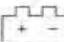

Fig. 1
- 3) If measure " DCV ", select the " Function rotary switch " ( 3-6, Fig. 1 ) to the " V  $\equiv$  " position
- 4) If measure " ACV ", select the " Function rotary switch " ( 3-6, Fig. 1 ) to the " V  $\sim$  " position, the display ( 3-2, Fig. 1 ) will show the " AC  $\sim$  " indicator.
- 3) Select the " Function rotary switch " ( 3-6, Fig. 1 ) to the "  $\Omega$   $\cdot$  ) " position, the display ( 3-2, Fig. 1 ) will show the "  $\Omega$  " indicator.
- 3) Select the " Function rotary switch " ( 3-6, Fig. 1 ) to the "  $\Omega$   $\cdot$  ) " position.
- 4) When the resistance value is less than 3 ohm, the beeper sound will be generated, the display ( 3-2, Fig. 1 ) will show the "  $\cdot$  ) ) " indicator.
- 1) Select the " Function rotary switch " ( 3-6, Fig. 1 ) to the " A  $\sim$  " position , the display ( 3-2, Fig. 1 ) will show the " AC  $\sim$  " indicator.
- 2) Put the electrical wire that intend to make the ACA measurement into the center of " Fork Jaw " ( 3-1, Fig. 1 )
- 1) Select the " Function rotary switch " ( 3-6, Fig. 1 ) to the " A  $\equiv$  " position.
- 2) Put the electrical wire that intend to make the DCA measurement into the center of : Fork Jaw " ( 3-1, Fig. 1 )
\* Push the " DCA ZERO Button " ( 3-5, Fig. 1 ), display will change to zero value.
- 1) During the measurement, pushing the " DATA HOLD Button " ( 3-4, Fig. 1 ) once a while will freeze the measured value & the LCD will indicate "  " symbol.
- 1) Before the measurement, pushing the " PEAK HOLD Button " ( 3-3, Fig. 1 ), then LCD will indicate "  " symbol.
- 3) Push the " PEAK HOLD Button " ( 3-3, Fig. 1 ) again to release the PEAK HOLD function.